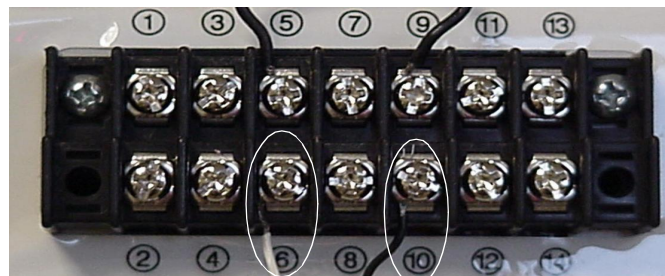

Figure 17. Pushbutton Connection
2. Connect wires from pushbutton to power supply source (5-30 volts) and terminal #6 (extend/retract). See Figure 17.